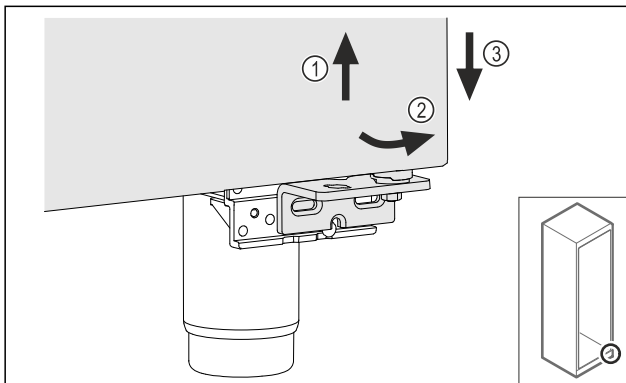

Fig. 12
- ▶ Lift the door slightly Fig. 12 (1), tip it forward Fig. 12 (2) and lower it Fig. 12 (3).